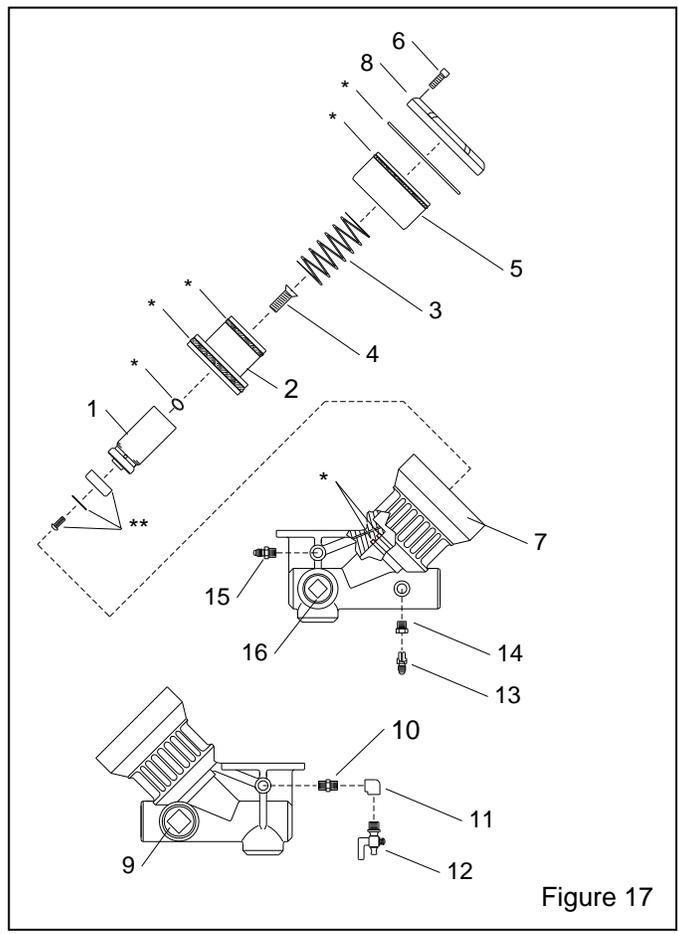

Figure 17
8.6 Millennium Valve, Inlet Segment, Figure 17